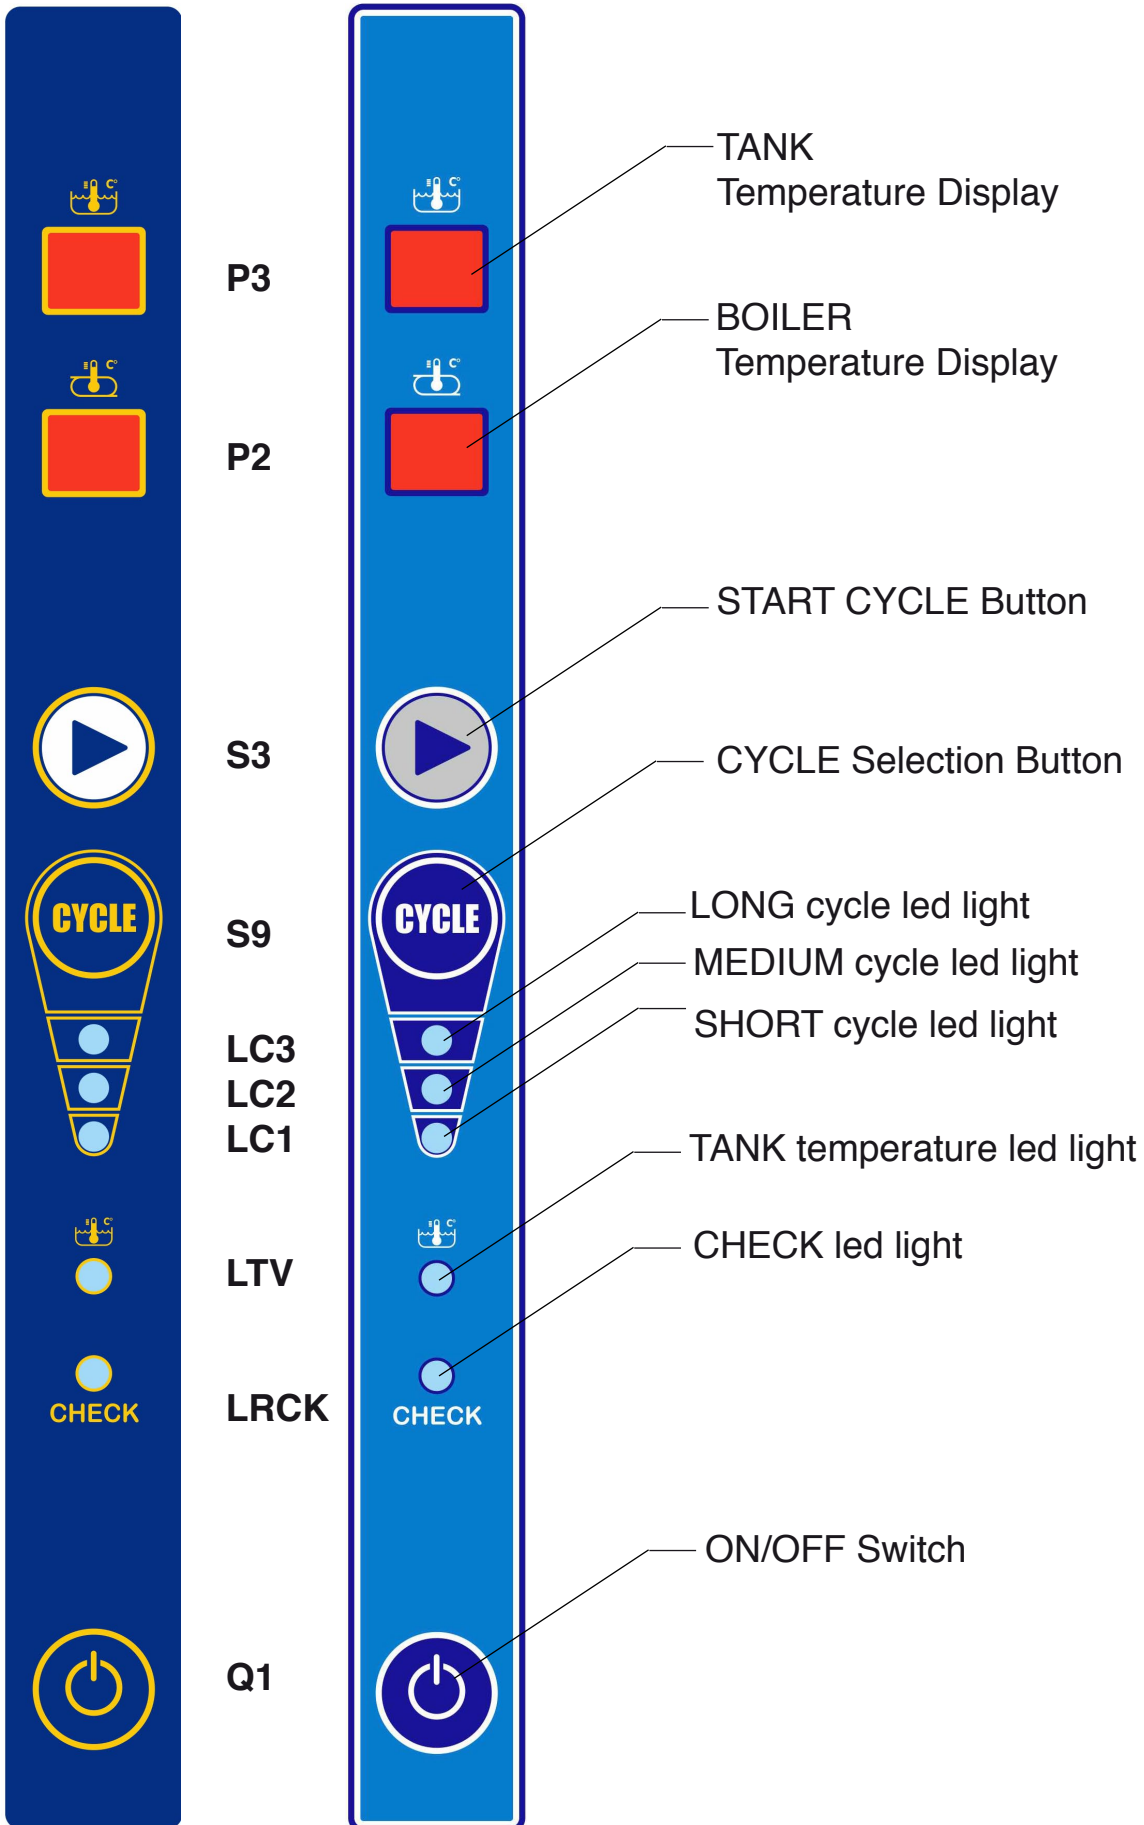

Fig. 1
2.1.a Switching on and Preparing the machine (Fig.1)